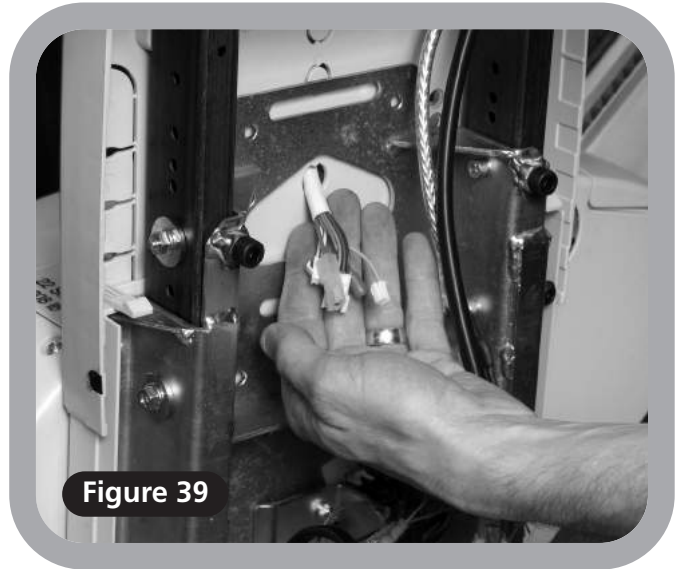

Figure 39
- 4 Remove the lowest of the available central knockouts from the top rear cover and feed through the main pack loom (**Figure 39**).